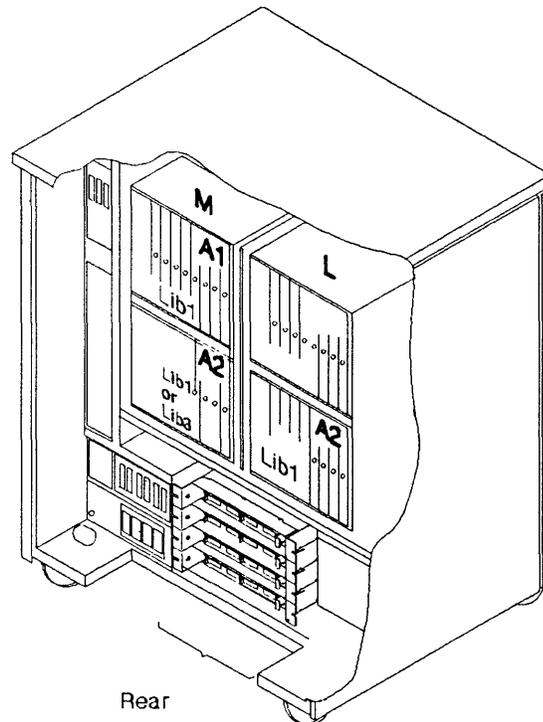

Figure 4-46. Location of the LIC Boards
2. For board location refer to Figure 4-46.